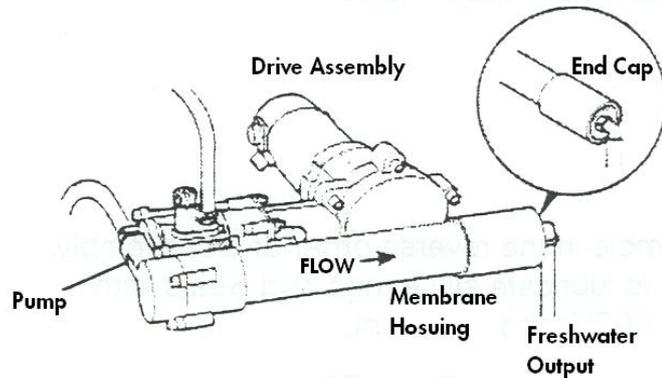

Figure 1
1. If the End Cap has the freshwater product hose attached, remove the hose (see Figure 1).